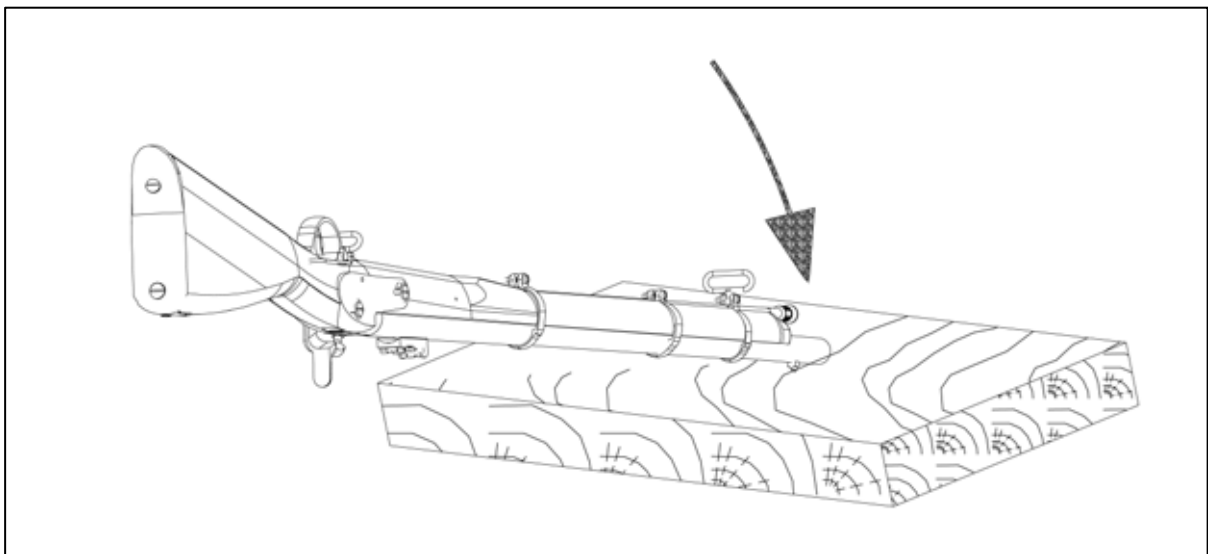

Fig 4
- d. To prevent damage to the stock, turn the rifle up side down and softly hit on a smooth surface with the muzzle of the barrel (see fig.4). In this way you can easily disassemble the barrel from the stock.
- e. To prevent damage to the stock, turn the rifle up side down and softly hit on a smooth surface with the muzzle of the barrel (see fig.4). In this way you can easily disassemble the barrel from the stock.